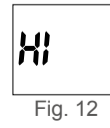

Fig. 12
1. The test results range between 20 to 600 mg/dL (1.1 to 33.3 mmol/l). If a "HI" message appears on the display, your Meter has detected that your blood glucose level is higher than 600 mg/dL(33.3 mmol/l). It is suggested that you review your testing procedure and test again with a new Test Strip to confirm the result. **If the same result occurs, consult your healthcare professional immediately.** (Fig.12)